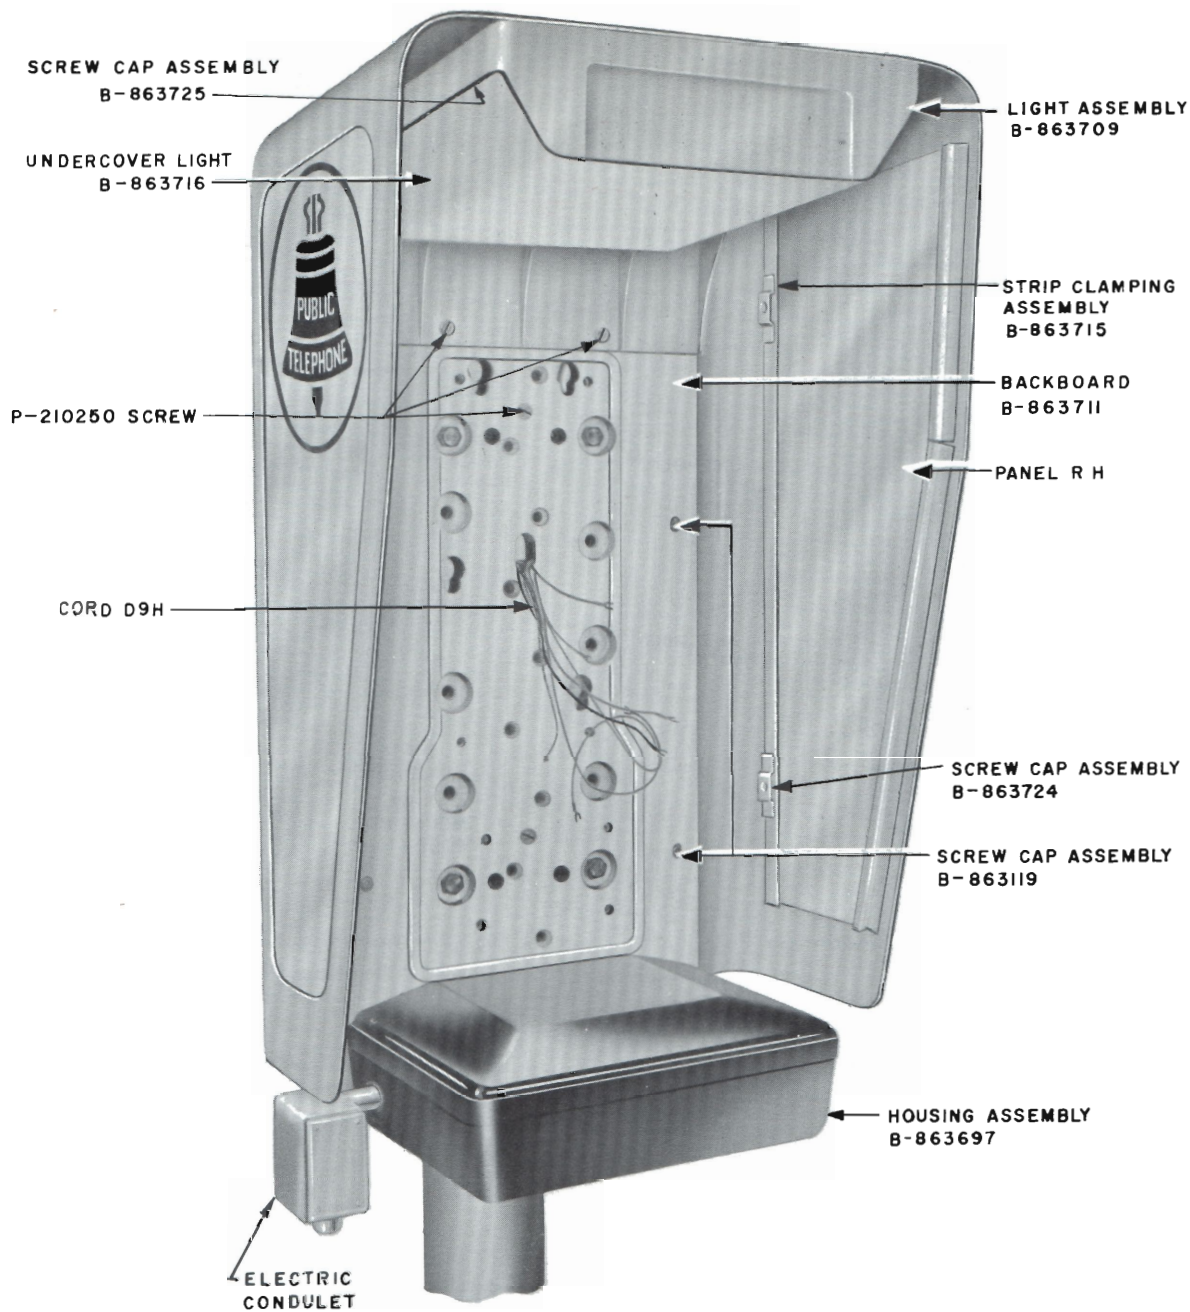

Fig. 5 - Front View
3.01 Each mounting consists of a weather hood, backboard, subscriber set housing, and a fluorescent light fixture. The backboard serves as a mounting surface for all the major items including the coin collector (Fig. 5). Backboard is designed to accept security studs.